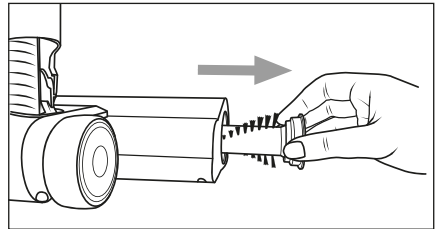

Fig. 23
- 3) Pull the rotary brush **19** out of the floor brush **20** (see Fig. 23).